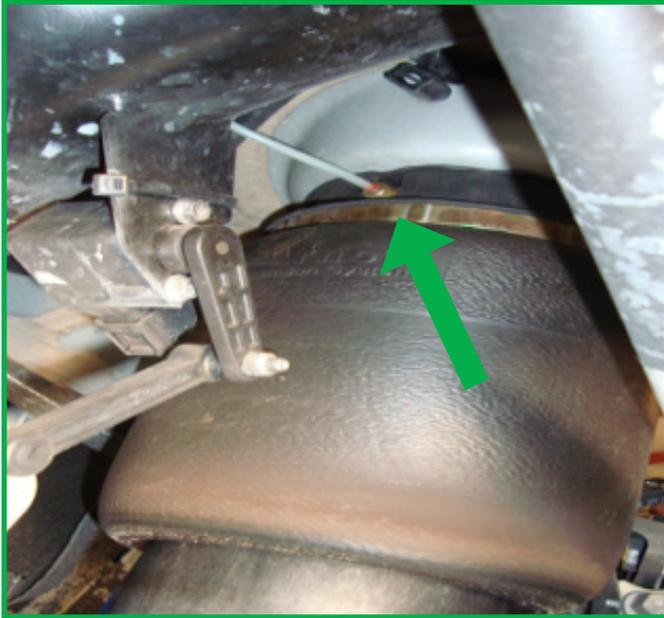

FIGURE 1
4. Slowly remove the air line from the top of the air spring to deflate. Remove the air fitting from the air hose and discard. (Figures 1, 2, 3)